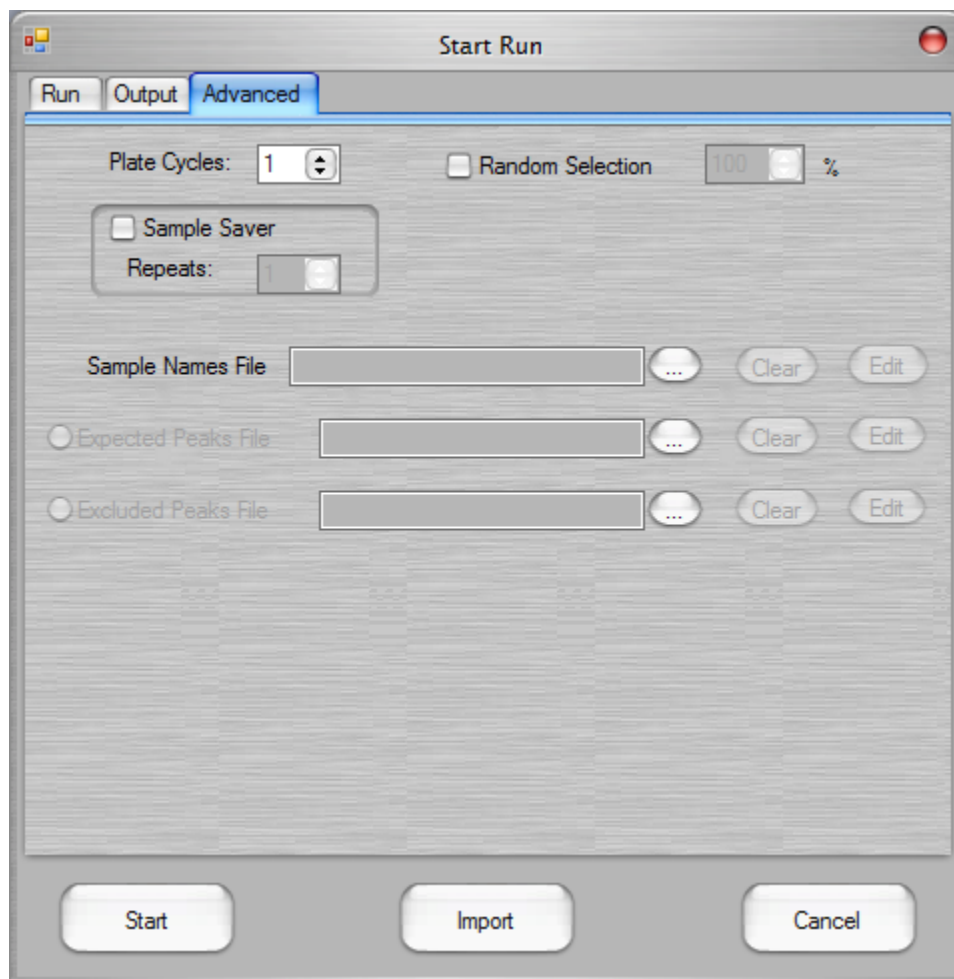

Figure 9. Advanced tab of Start Run window.
7. In the **Advanced** tab, select the number of times each well is sampled, the sample names and any expected peaks. See **Figure 9**.